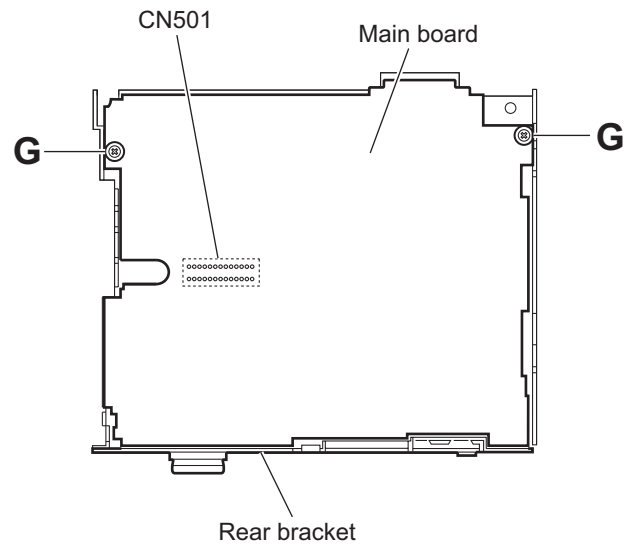

Fig.6
- (2) Remove the two screws **G** attaching the main board on the bottom side of the main body. (See Fig.6.)
- (3) Disconnect the connector CN501 on the main board from the CD mechanism assembly and take out the main board with the rear bracket. (See Fig.6.)